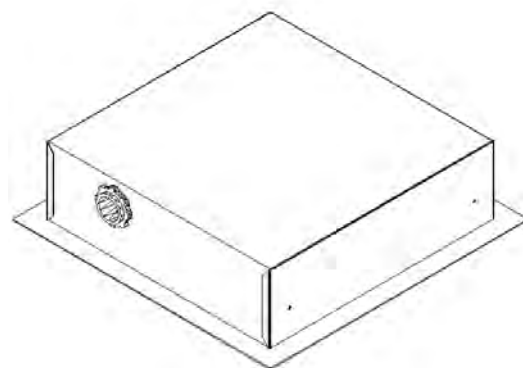

Figure 2 - Hardware installation.
Step 2 – Place the *ceiling enclosure assembly* on the work surface. Remove one of the 1" trade size hole cover on the side of the enclosure and install the 1" conduit nipple (the side on which the conduit nipple is to be installed will be determined by the location the enclosure is to be installed and direction from which conduit will be brought into the enclosure – ref. *Figure 2*).